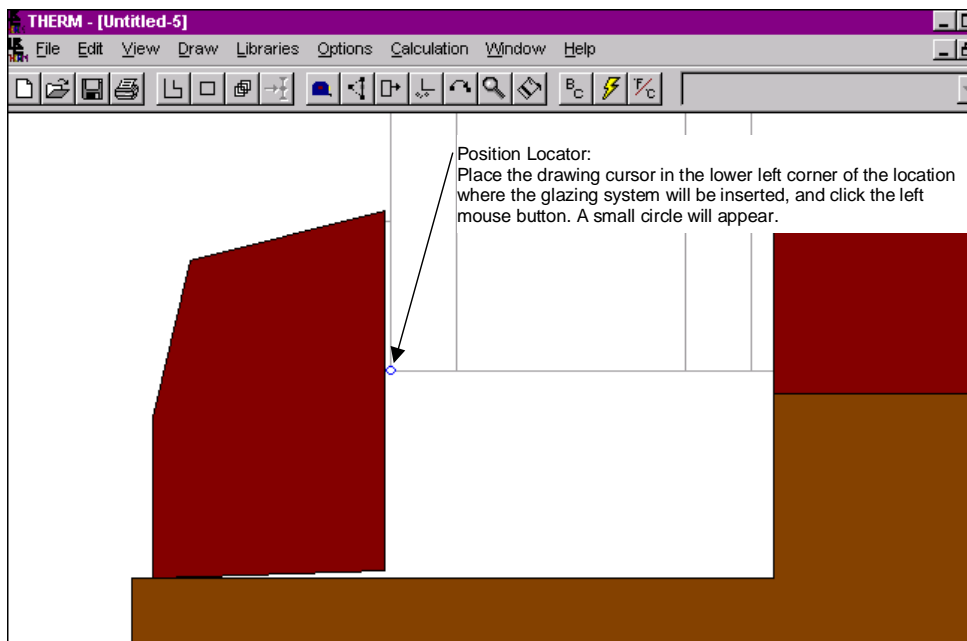

Figure 8-30. Position the locator where you want the lower left corner of the glazing system to be placed.
- Move the mouse cursor to the lower left corner where the glazing system is to be inserted, and click on the left mouse button. A small circle will appear indicating the position of the **Locator**, as shown in Figure 8-30. (If you are not using an underlay, first draw the glazing tape to the right of the exterior stop, to serve as a guide for placing the **Locator**.)